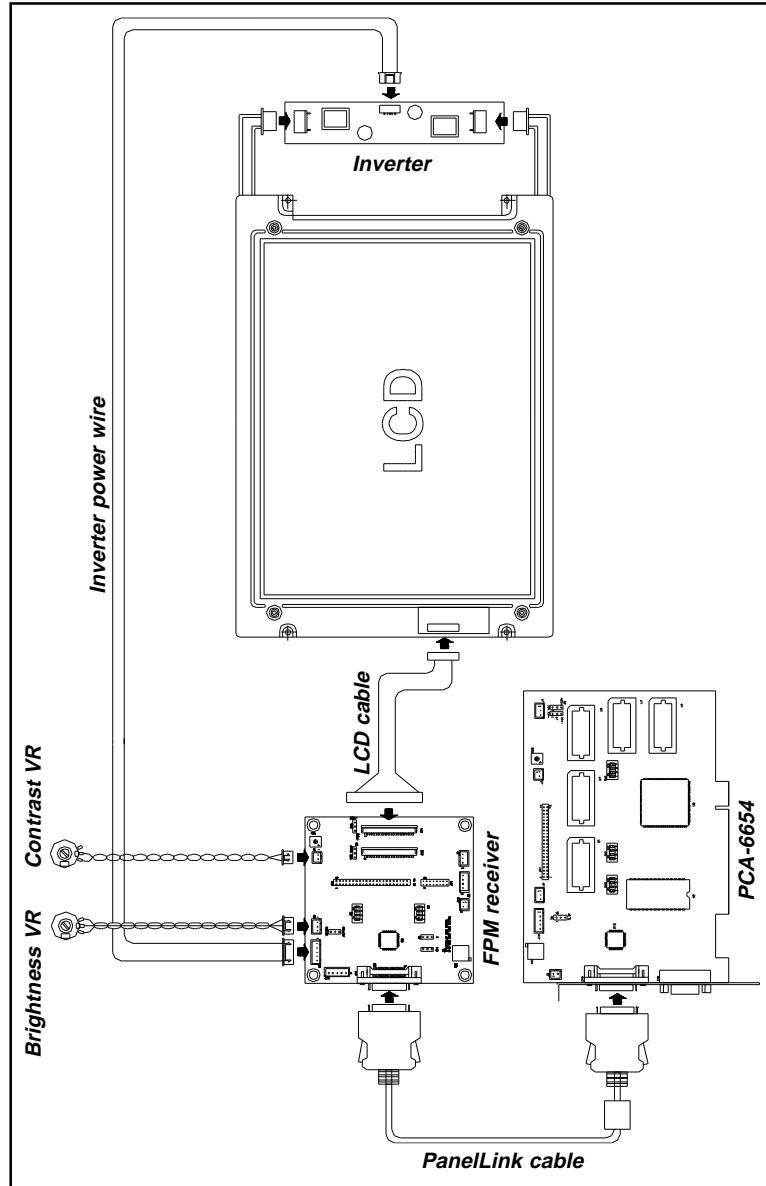

Figure 4-6: MONO LCD setup
13. Connect the PanelLink cable to the VGA card and the FPM-40 receiver. (See Fig. 4-6.)
20. Connect the LCD cable, inverter, inverter power wire, and VR assembly with wire for brightness to J2 and for contrast to J1. (See Fig. 4-6.)